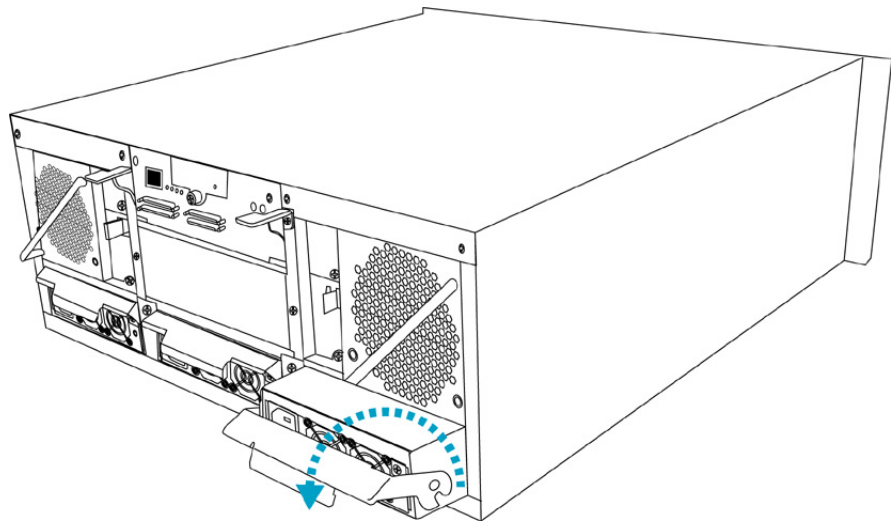

Figure 5-8: Dislodging the PSU
Step 3. Remove the failed module using the retention handle. Press the retention handle down until the PSU is released from the enclosure chassis. (See *Figure 5-8*)